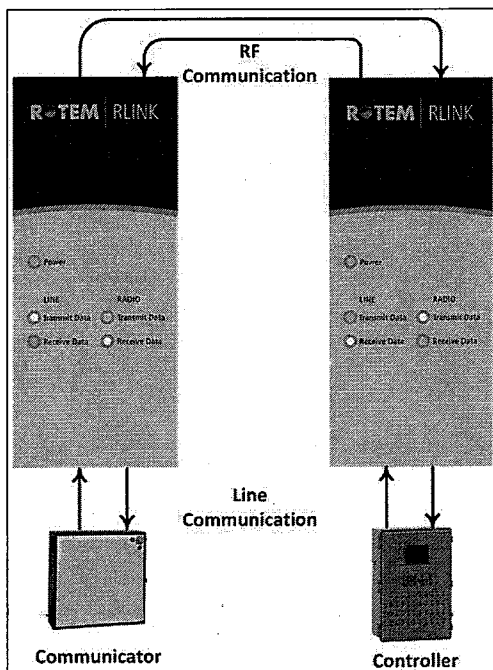

Figure 22: Example Communication Pathway
**NOTE:** The LEDs lit in Figure 22 are an example only. All Line and Radio LEDs should blink.